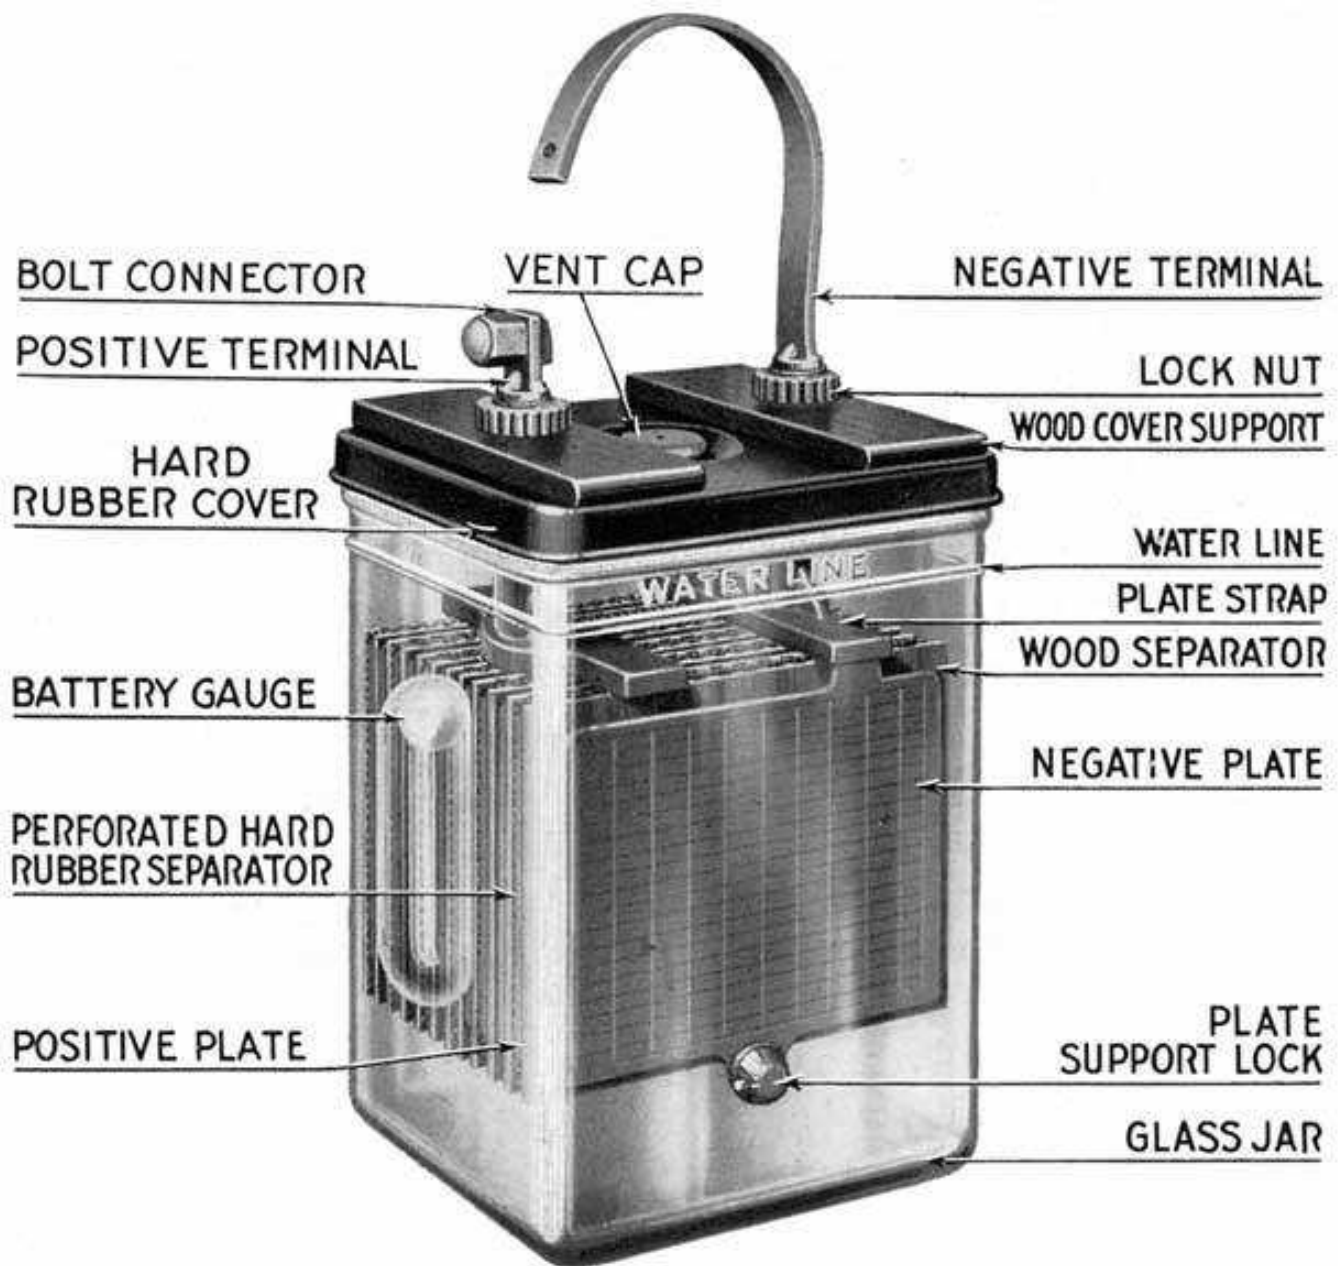
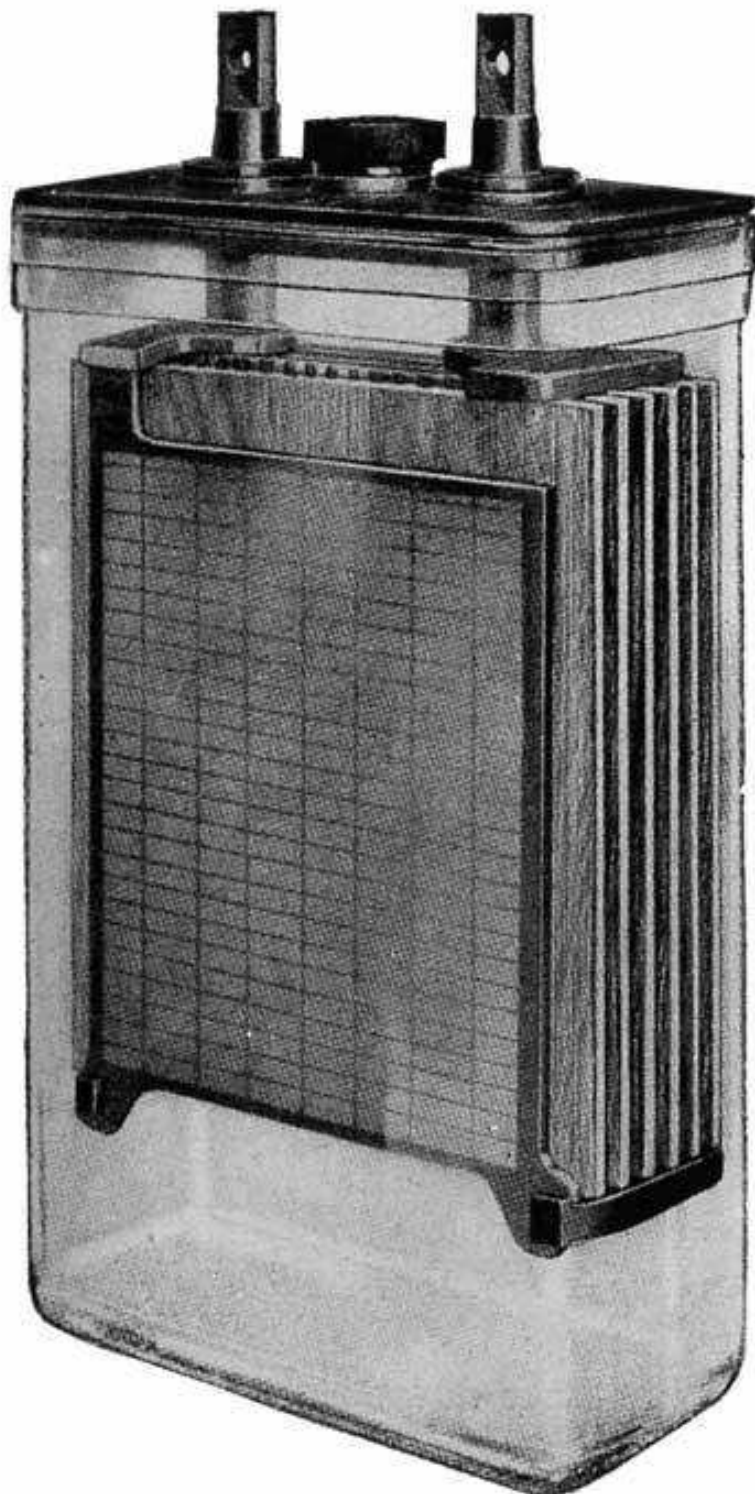

Fig. 294. Exide "Delco Light" Farm Lighting Cell with Hard Rubber Cover
Fig. 295. Prest-O-Lite Farm Lighting Cell, with Lead-Antimony Cover
**Jars.** Both glass and rubber are used for farm lighting battery jars, and they may or may not have sealed-in covers. Fig. 294 shows a glass jar of an Exide battery having a hard rubber cover, and Fig. 295 shows a Prest-O-Lite glass jar cell having a cover made of lead and antimony. Unsealed glass jars, such as the Exide type shown in Fig. 324, generally have a plate of glass placed across the top to catch acid spray when the cell is gassing. Each jar with its plates and electrolyte forms a complete and separate unit which may easily be disconnected from the other cells of the battery by removing the bolts which join them. In working on a farm lighting battery, the repairman, therefore, works with individual cells instead of the battery as a whole, as is done with automobile batteries.